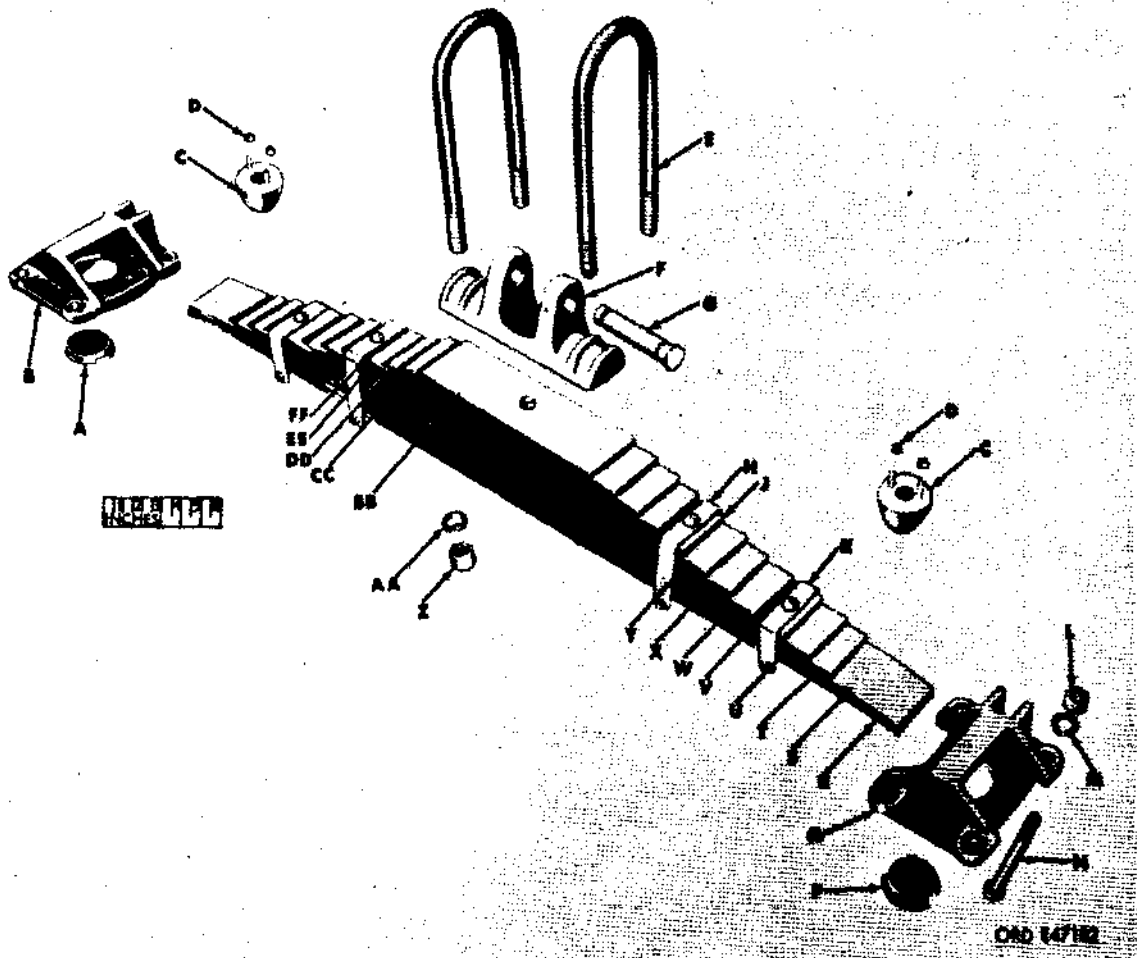

Figure 393. Rear spring and mounting parts - exploded view
- (1) Spring leaves (fig. 393). Make sure that all rust has been removed from spring leaves. Apply a small amount of powdered graphite to each side of spring leaves. Assemble leaves, starting with the longest spring leaf. Aline holes for center bolt.
- (2) Install center bolts. Place the assembled spring leaves in arbor press or install heavy C-clamps. Compress leaves tightly together, and install center bolts.